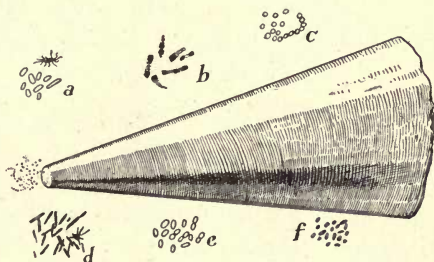

FIG. 358.—Bacteria and the Point of a Cambrie Needle.
**Bacteria.** — There are millions of tiny living organisms in the world (Figure 358). They are single-celled bodies and belong to the divisions of plants and animals. We have already learned that many one-celled plants are known as bacteria and belong to the class of fungi.